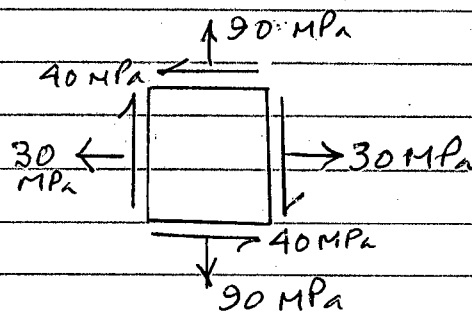

FIG. 5
5. If a point is subjected to the state of stress shown in Fig. 5, determine (a) the principal stresses and the corresponding planes on which they act and (b) maximum in-plane shearing stress along with associated normal stress. Construct Mohr's circle of stress and show the results on complete sketches of differential elements. (26 ¼)